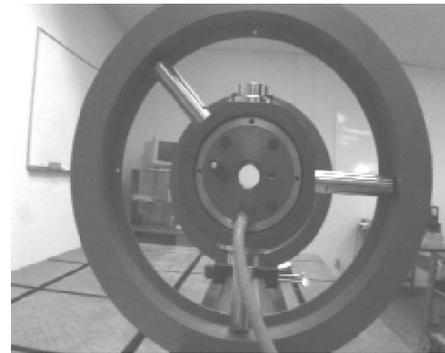

Figure 28 -- Bore Target in the NORMAl position (target cable trailing downward from the bottom of the target).
1. Place the T-218/T-225L Target in the *Near Bore* in the NORMAl position (see Figure 28).
10. Insert the T-218/T-225L back into the *Near Bore* in the NORMAl position (see Figure 28).
1. Take a reading on the near target with the target in the normal position (see Figure 28). Write down the **V** and **H** Readings (NORMAl).